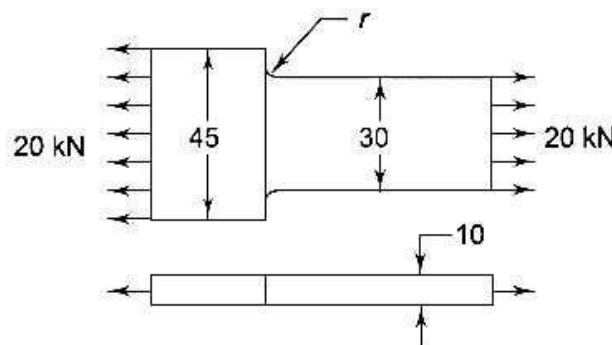

Figure 6.4
4. A plate, 10 mm thick, subjected to a tensile load of 20 kN is shown in Fig.6.4 The plate is made of cast iron ($S_{ut} = 350 \text{ N/mm}^2$) and the factor of safety is 2.5. Determine the fillet radius.
- From Fig. 6.4: